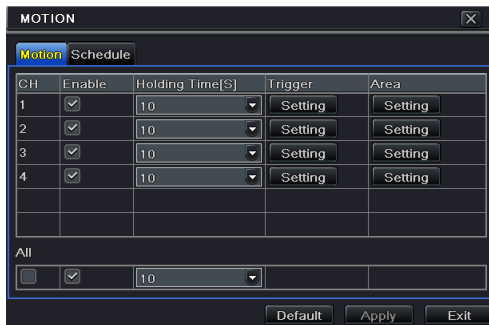

Fig 4-16 Alarm Configuration-Motion
Step 1: Enter into Menu→Setup→Alarm →Motion. Refer to Fig 4-16: